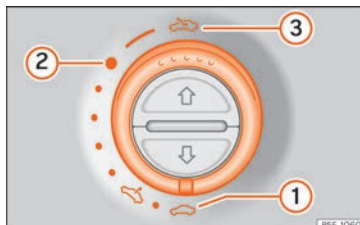

Fig. 110 On the interior roof lining: turn the switch to open and close.
- Open: turn the switch to position » Fig. 110 ③.
- Comfort position: turn the switch to position » Fig. 110 ②.
- Close: turn the switch to position » Fig. 110 ①.
The anti-trap function can reduce the risk of injury when closing the sunroof and the sun blind » Fig. 110. If the sunroof or sun blind encounter resistance or an obstacle when closing, they reopen immediately.
- The switch » Fig. 110 should be in the "closed" position ①.